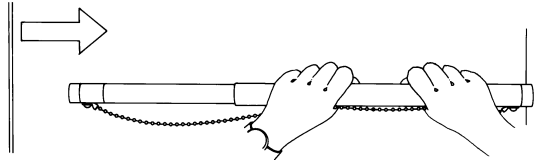

Figure 10 - Safe Use of the Door Gauge
3. Use a force gauge to measure the closing force. See Figure 10.